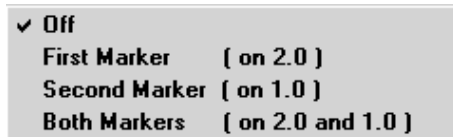

Fig. 3-106 Subcontext menu of the Normalized view
- Selection of **Normalized View** will give you a context submenu from which you can choose the following options (see Fig. 3-106):